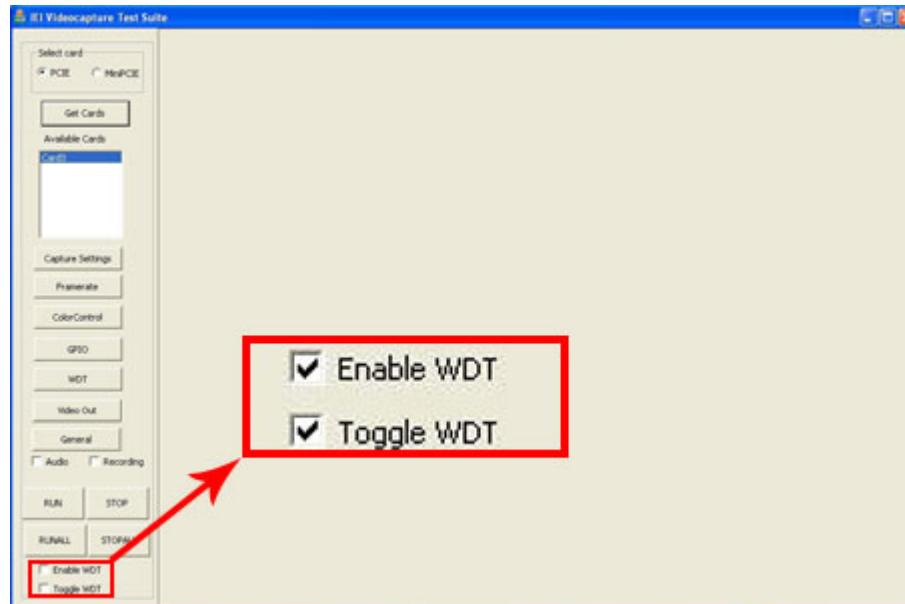

Figure 6-28: WDT Options for Multiple Cards
Step 11: In the main interface, check the **Audio** checkbox to capture audio. Check the **Recording** checkbox to record the video and save in AVI format (see **Figure 6-28**).
Step 13: To capture all channels from multiple capture cards, click the **RUNALL** button on the test suite interface (see **Figure 6-28**). Click the **STOPALL** button to stop capturing all channels.
To enable watchdog timer for multiple capture cards, check the checkboxes of the Enable WDT and/or Toggle WDT options on the test suite main interface (see **Figure 6-28**).